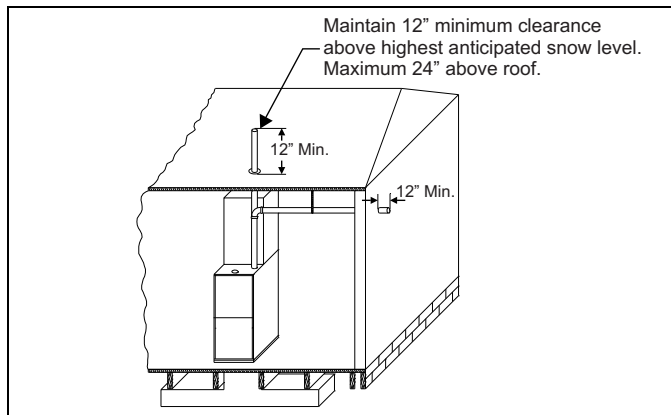
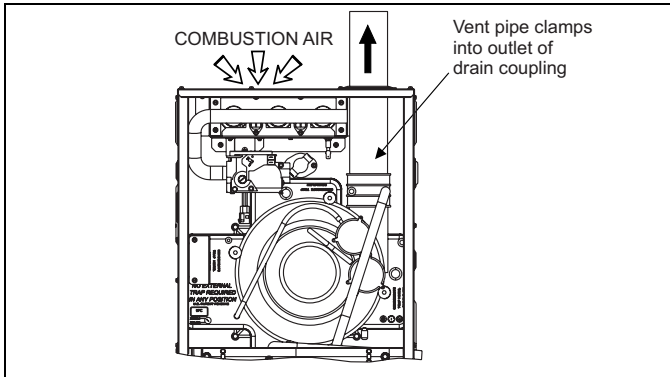

FIGURE 35: Termination Configuration - 1 Pipe
FIGURE 42: Combustion Airflow Path Through The Furnace Casing
The combustion air side of the single pipe configuration shown in Figure 42 is referred to in these instructions as ambient combustion air supply. Follow the instructions for ambient combustion air installations, paying particular attention to the section on air source from inside the building. The vent for a single pipe system must be installed as specified in the venting section of these instructions with both vents terminating as shown in Figure 35. Each furnace must have a separate vent pipe. Under NO circumstances can the two vent pipes be tied together.
2. **AMBIENT COMBUSTION AIR:** Combustion air is supplied from the area surrounding the furnace through openings in the furnace casing. The combustion air and the vent pipes are not terminated in the same atmospheric zone. Refer to Figure 35 for vent terminations. Refer to "Ambient Combustion Air Supply" for proper installation. Refer to Figures 42 and 43.